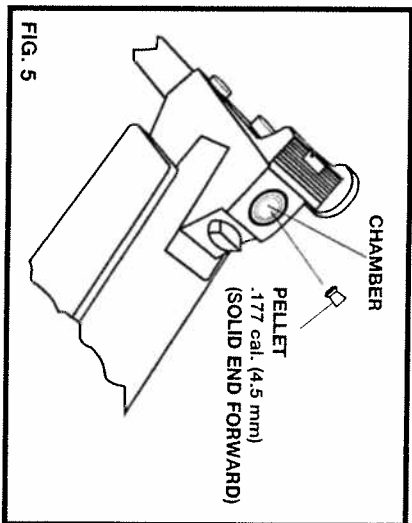

FIG. 5
- 2. DO NOT load the pellets in backwards. (i.e., DO NOT load pellets skirt forward. See Fig 5.)
Place a .177 cal. (4.5 mm pellet (solid end forward) fully into the chamber at the breech end of the barrel. (See Fig. 5.)